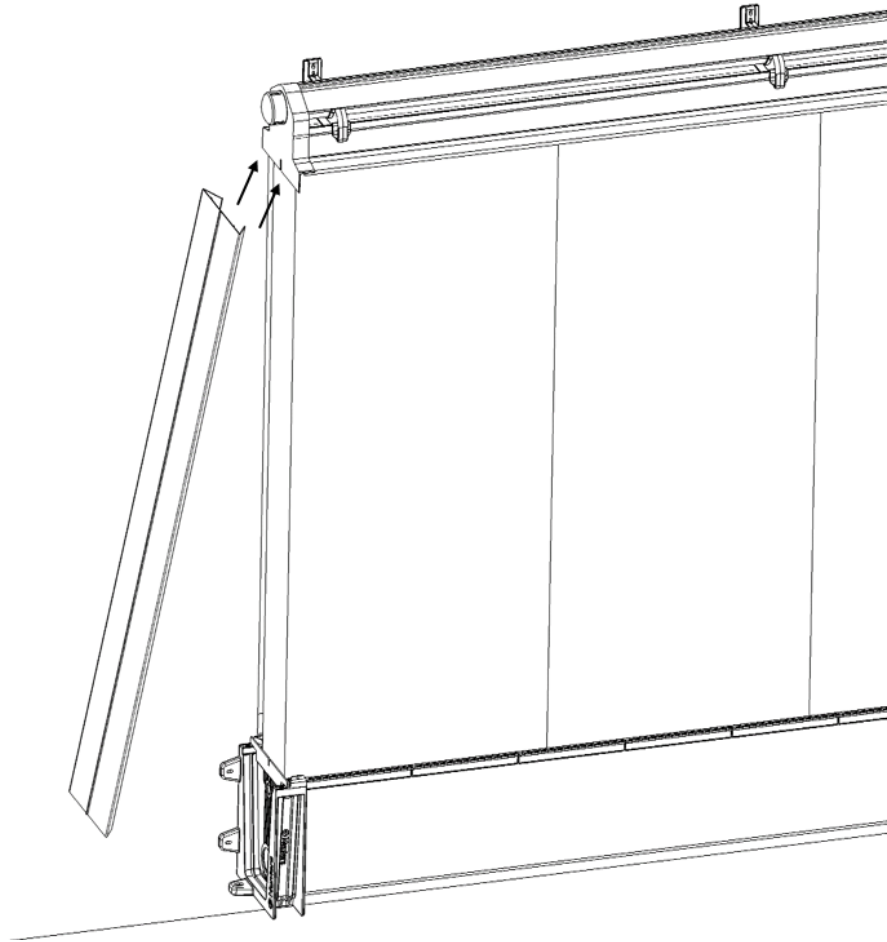

Figure 35
Place the Lateral Profile [ref. 19]. Firstly, insert it in the top End Cover for Deflector and after let it slide in the Bottom Gutter End Cover. See Figure 35.